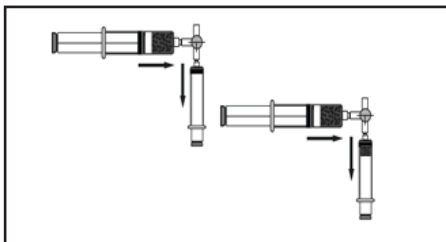

Figure 15.
- 5.2 Transfer microspheres from one loading syringe to the delivery syringe via attached 3-way stopcock. Disconnect the 1st loading syringe and attach the 2nd loading syringe. Transfer the microspheres to the delivery syringe (Figure 15).